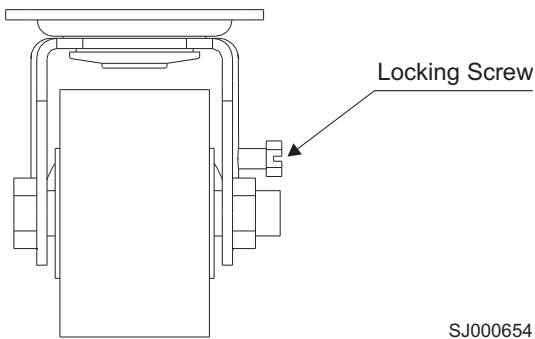

Figure 79. Caster wheel
3. Lock each caster wheel by tightening the screw on the caster. See Figure 79.